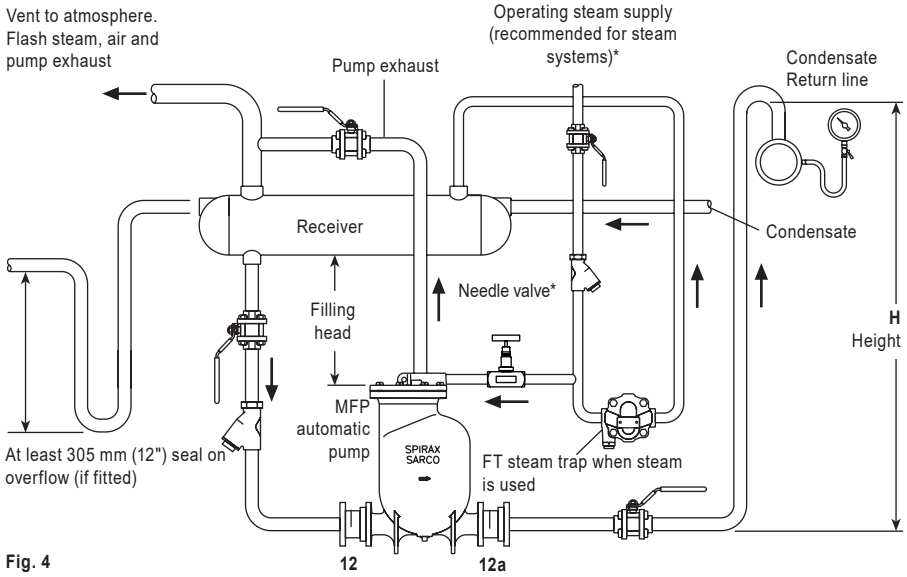
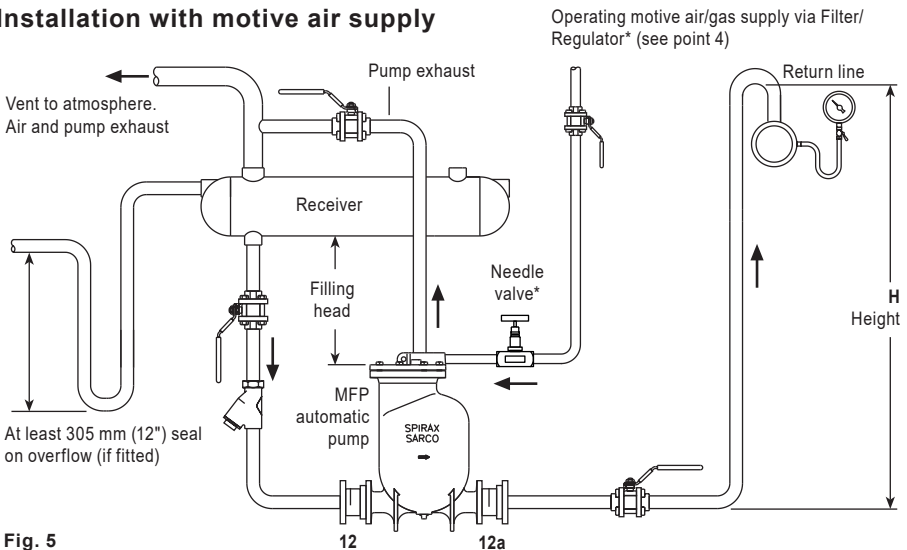

Fig. 4
Fig. 5
1. Install the pump below the equipment to be drained with the exhaust connection vertically upwards. Pump should be installed with the recommended filling head (the vertical distance between the top of the pump and the bottom of the reservoir/receiver), see Section 3.2 and Fig. 5. For other filling head variations, refer to separate capacity chart.
2. To prevent equipment flooding during the pump discharge stroke, a vented receiver or reservoir pipe should be installed in a horizontal plane ahead of the pump as shown in Fig. 4. For proper receiver/reservoir sizing, refer to Tables 1 and 2 on pages 16 and 17. All inlet line fittings must be full bore.
3. Connect the check valves (12) and (12a) to the pump making sure that the flow through the valves is in the correct direction. For best performance, horizontal piping runs immediately ahead of the inlet check valve and after the discharge check valve should be kept to a minimum. Connect the discharge to the return main or other return point. Torque tighten inlet and outlet flange bolts to 76 - 84 N m (56 - 62 lbf ft).
4. Connect the operating medium (steam, air or gas) supply to the motive supply inlet in the cover (see Fig. 4 and 5, page 14). Steam motive supply should have: A strainer, needle valve (to optimise the motive supply pressure during commissioning) and a steam trap (discharging to the receiver or reservoir piping) installed upstream of the supply inlet. Compressed air motive supply should have: A filter regulator and needle valve installed upstream of the supply inlet.
Sufficient reservoir volume is needed above the filling head level to accept the condensate reaching pump during the discharge stroke. The receiver can be a length of pipe of large diameter or a tank. If desired, receiver overflow piping can be installed as shown in Fig.4 and Fig. 5 in Section 3 and piped to a suitable drain. The piping must form a U-type water seal at least 305 mm (12") deep immediately after the receiver.
4. Connect the operating medium (steam only) supply to the motive supply inlet in the cover (see Fig. 4 page 14).